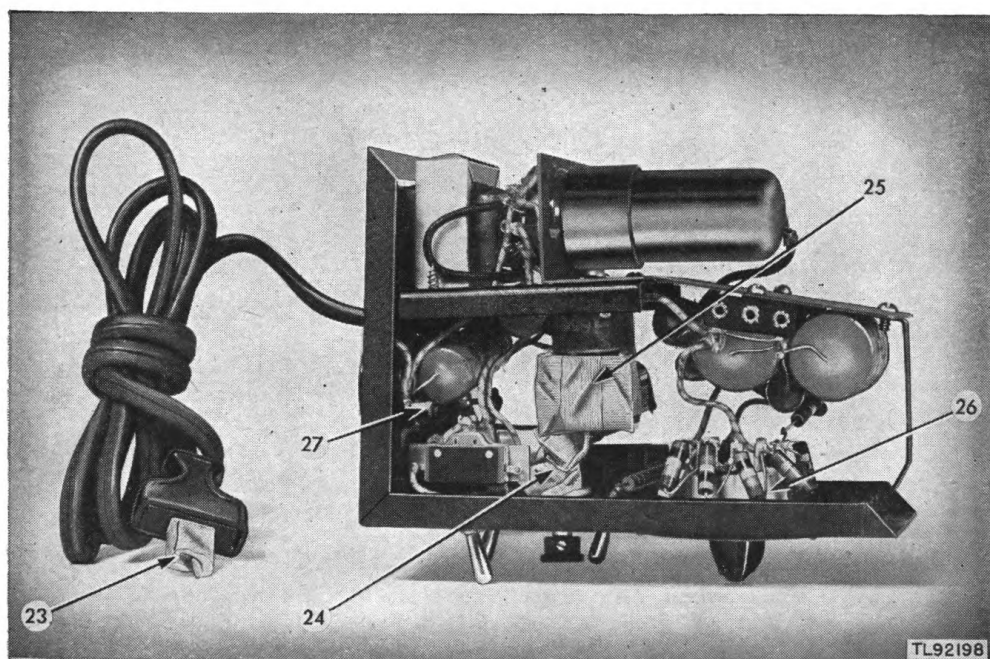

Figure 11. Preparation for moistureproofing and fungiproofing, side view.
12. Moistureproofing and Fungiproofing (figs. 11 and 12)
(2) *Masking*. Cover the following components with masking tape as shown in figures 11 and 12.